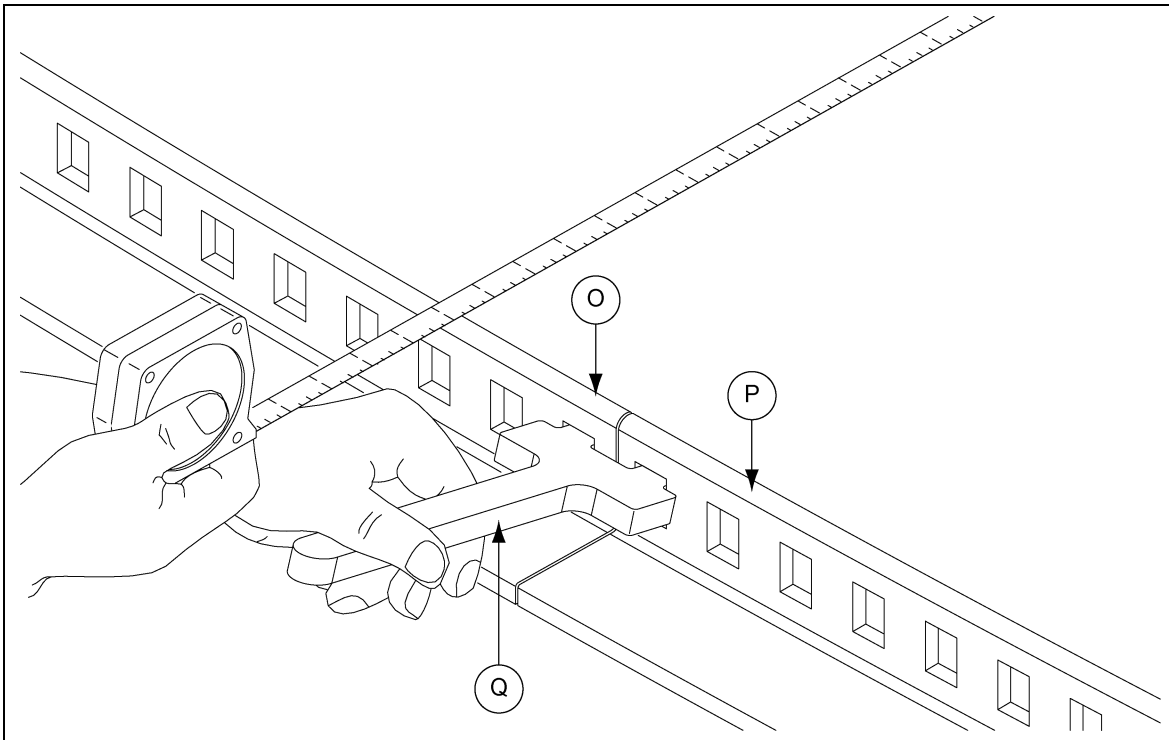

Figure 4C
8. Place each section of track in position around the center well, aligning the inside track edges (P) with the marks in the bin floor. Using the tape measure, ensure each track section has the proper measurement. (See Figure 4C.)